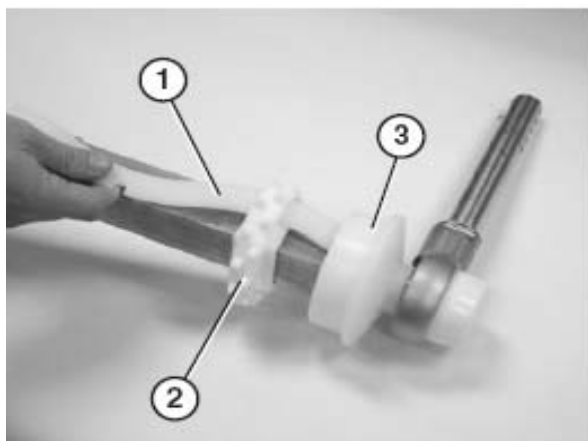

Figure 82
3. Insert the sprocket alignment bar (**Figure 82, item 1**) into the first sprocket (**Figure 82, item 2**) resting it up against the flanged puck (**Figure 82, item 3**). Position the first sprocket with the notch in the sprocket alignment bar.